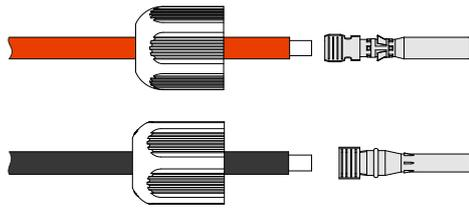

Figure3-33 Crimp the metal terminal
Step 3 Unscrew the lock nut of positive and negative connection, lead the positive and negative wires go through corresponding lock nut, and then insert the positive wire and negative wire into the positive metal terminal and negative metal terminal respectively. Crimp the metal terminals firmly by crimping pliers, as shown in Figure3-33.